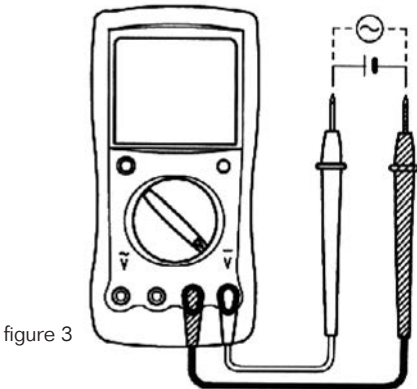

figure 3
A. AC or DC Voltage Testing (see figure 3)